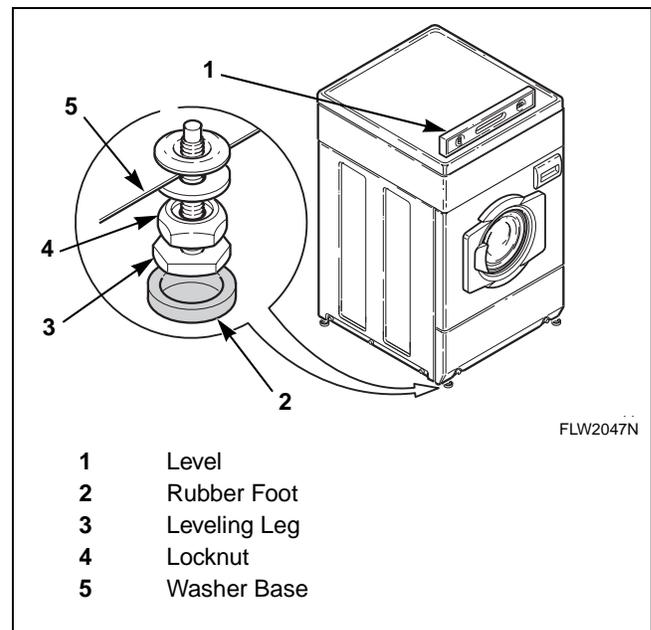

Figure 9
**NOTE: Level must rest on raised portion of top panel. Refer to *Figure 9*.**
Place rubber feet (supplied in accessories bag) on all four leveling legs. Refer to *Figure 9*.